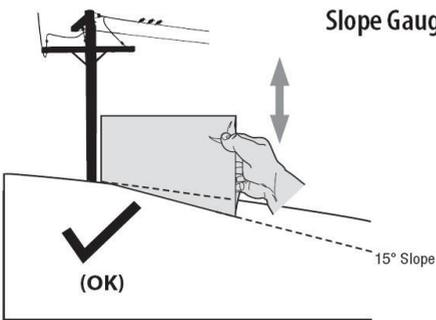

Figure 1
3. Align either side of the slope gauge with the object (see Figure 1 and Figure 2).
4. Adjust gauge up or down until the left corner touches the slope (see Figure 1 and Figure 2).